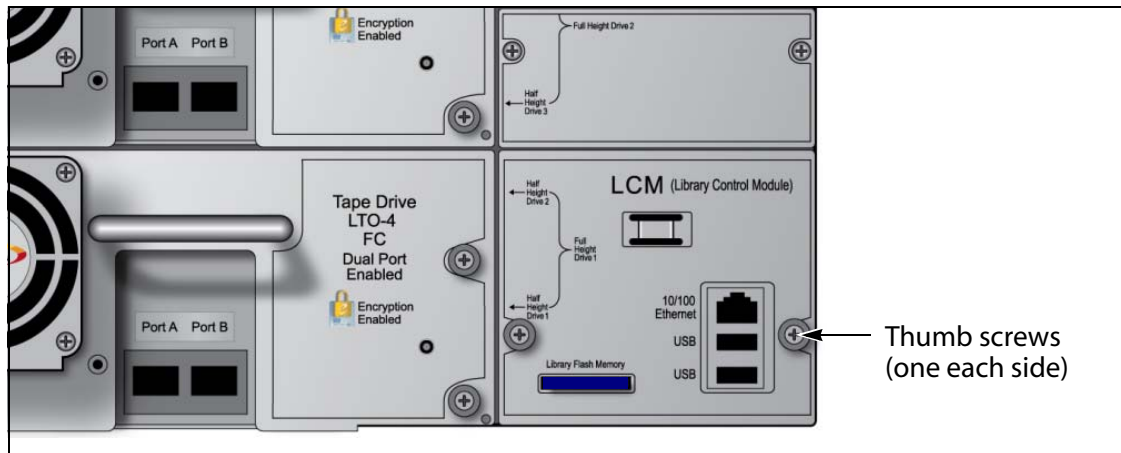

Figure 2-21 Remove the screws securing the LCM to the chassis.
3. Loosen the finger screws securing the LCM to the chassis by hand or with a #2 Phillips screwdriver (Figure 2-21).
3. Tighten the two screws using a #2 Phillips screwdriver or your fingers, shown in Figure 2-21, to secure the LCM to the chassis.